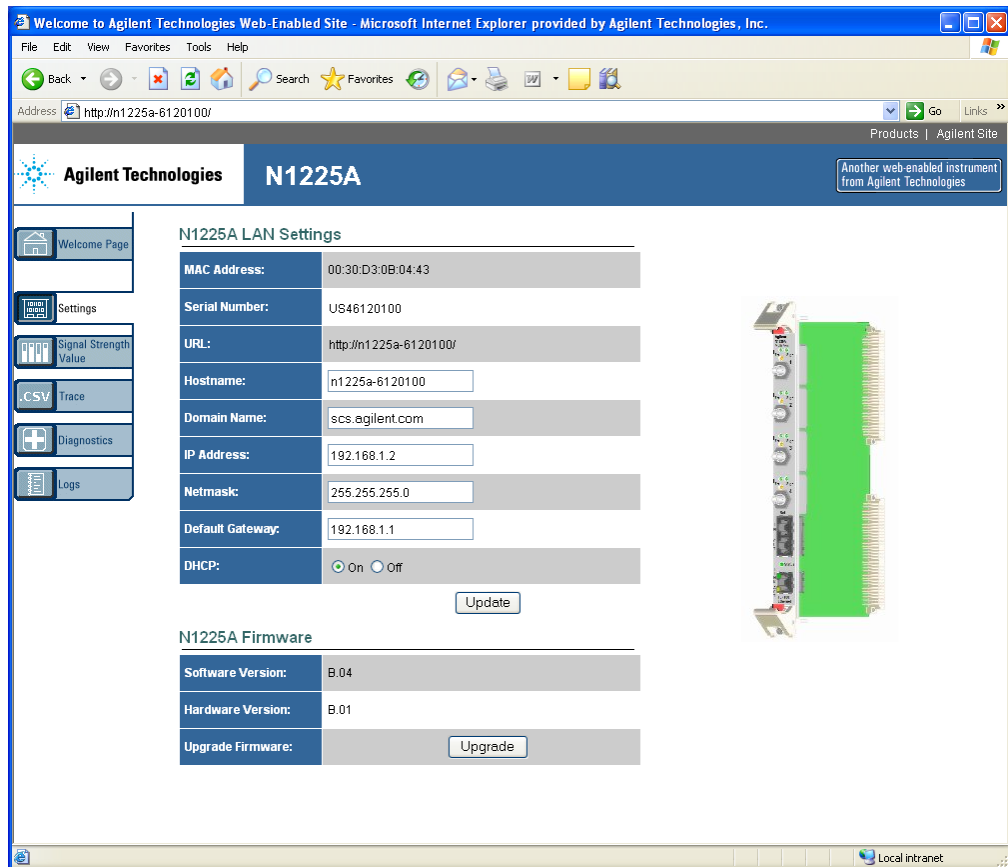

Figure 56 Firmware section of the Settings screen
- 2 From the Agilent N1225A Web Interface, select the *Settings* tab on the left hand side. The screen shown in Figure 56 should appear. Scroll down to the N1225A Firmware section where you will find the current Software Version and Hardware Version information installed in the product*.